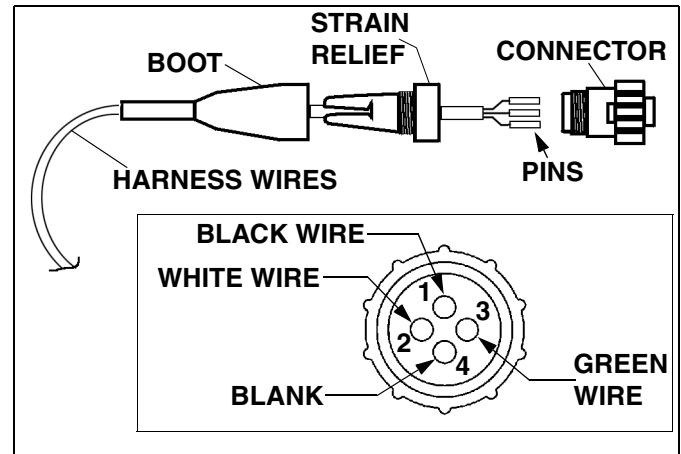

Figure 1-5
7. Insert harness wires through boot and then through strain relief (See Figure 1-5). Push the pins on the end of each of the three wires into the back side of the connector (the end with external threads and numbers 1 thru 4 on the surface). The black wire must be inserted into hole #1 of the connector (note that the holes in the